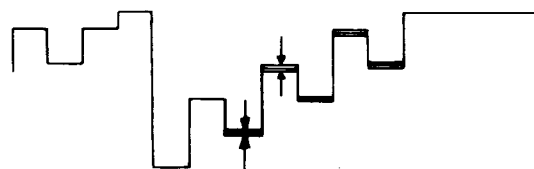

Figure 4-2 L502 Alignment
- 5) Adjust L502 to obtain a minimum fluctuation as shown in figure 4-2 after changing PATTERN into the COLOUR BAR signal.